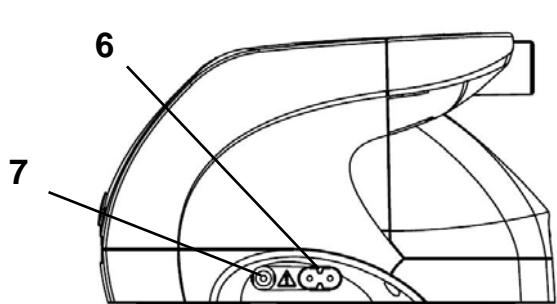

Figure 4 – View of the right side
Inspect the Sandman Duo™ or Sandman DuoST™ device and the detachable AC power cord to make sure they are free of visible defects. Plug one end of the detachable AC power cord into the power port of the device (item 6 of Figure 4 page 7) and the other end into a wall power outlet, as described under "" (page 44). The device will be in the same mode it was in (on/off) when last disconnected from the power cord.
4. Plug the detachable power cord into the power port of the device (Item 6 of Figure 4 on page 7).
4. Plug the battery power cable into the external battery port of the device (Item 7 of Figure 4 on page 7).
4. Plug the cigarette-lighter cable into the external battery port of the device (Item 7 of Figure 4 on page 7).